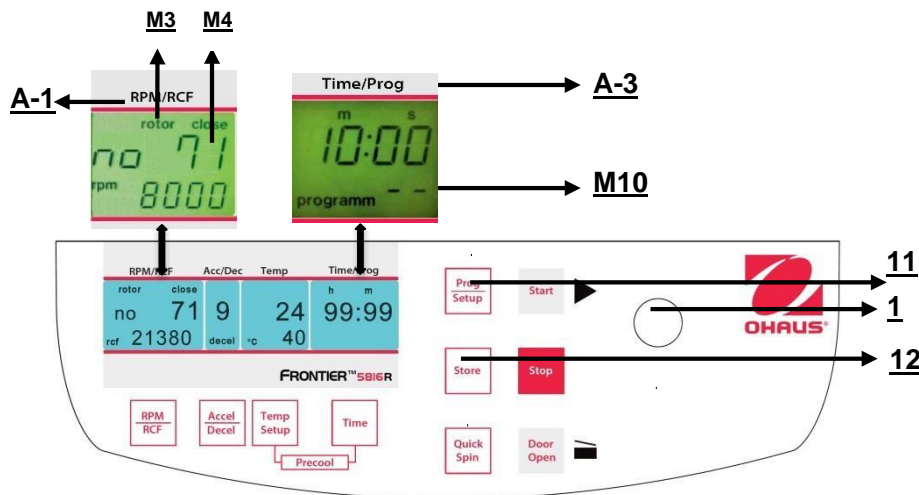

Figure. 28
To recall stored programs press the key "**Prog/Setup**" (11) (refer to figure 28) while the lid is already closed. Inside the display "**Time/Prog**" (A-3), "**programm --**" (M10) appears. The desired program number can be pre-selected with the adjusting knob (1).
To leave the program mode just press the key "**Prog/Setup**" (11) (refer to figure 28). Then inside the display "**Time/Prog**" the word "**programm**" appears.